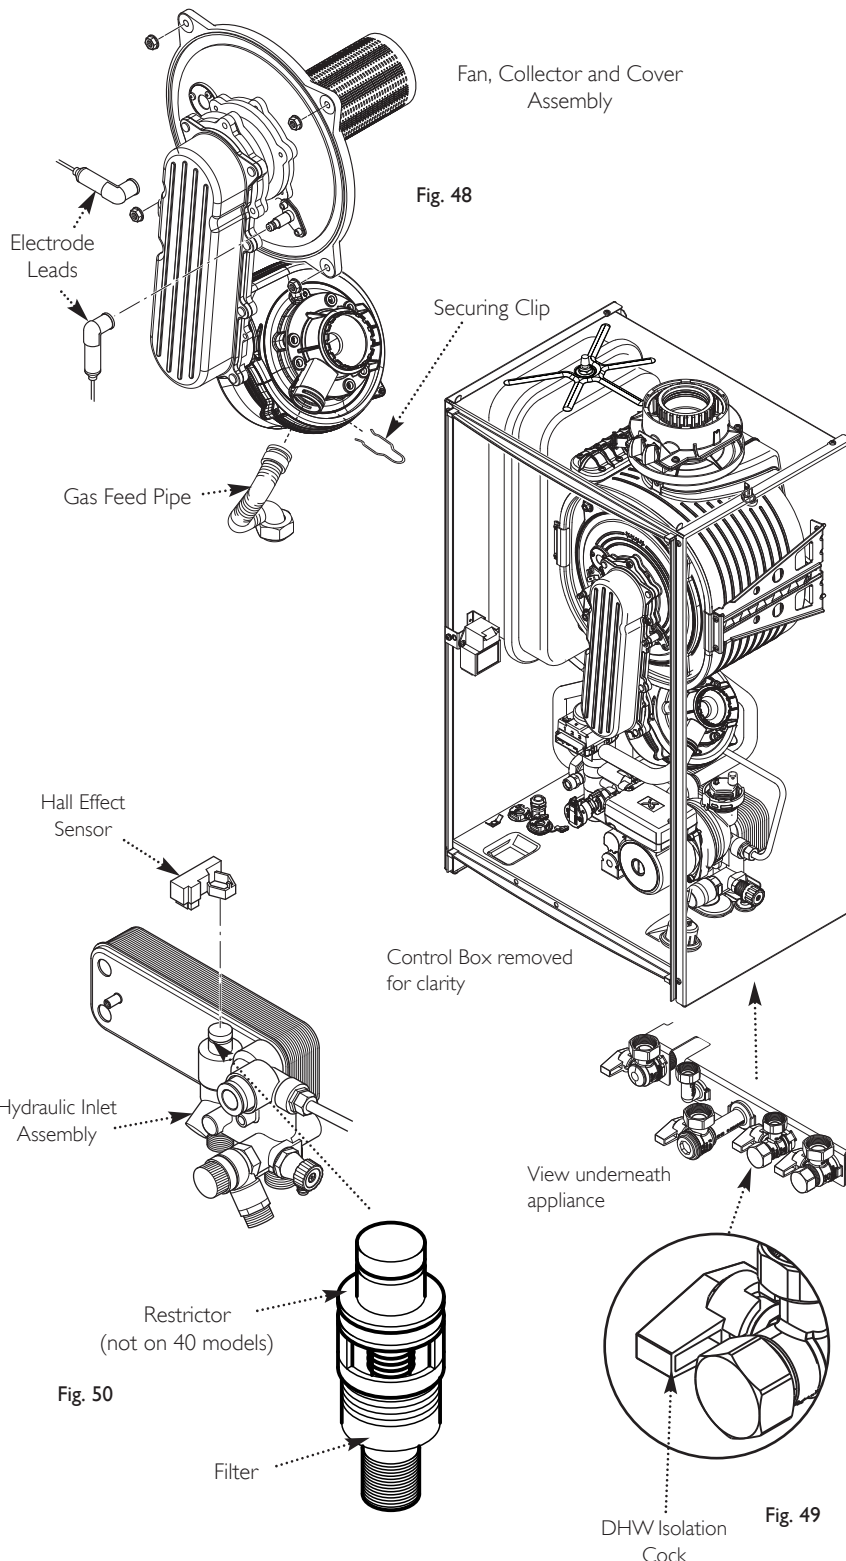

Fig. 49
14. Turn the DHW isolation cock (Fig. 49) off and draw off from a hot tap.